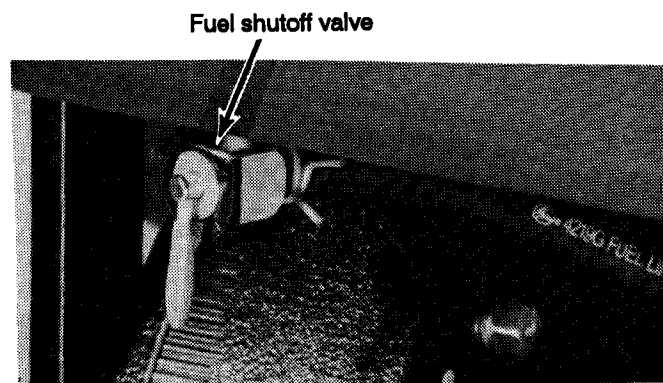

Figure 9. Fuel shutoff valve.
1. Ensure that the fuel shutoff valve on the bottom side of the fuel tank is open (vertical). (Refer to Figure 9).